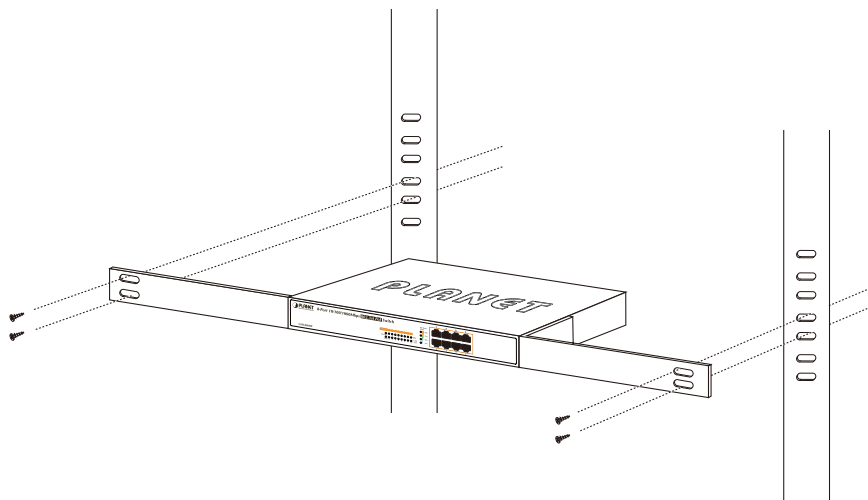

Figure 2-5: Mounting the Switch in a Rack
Step 5: After the brackets are attached to the Switch, use suitable screws to securely attach the brackets to the rack, as shown in Figure 2-5.